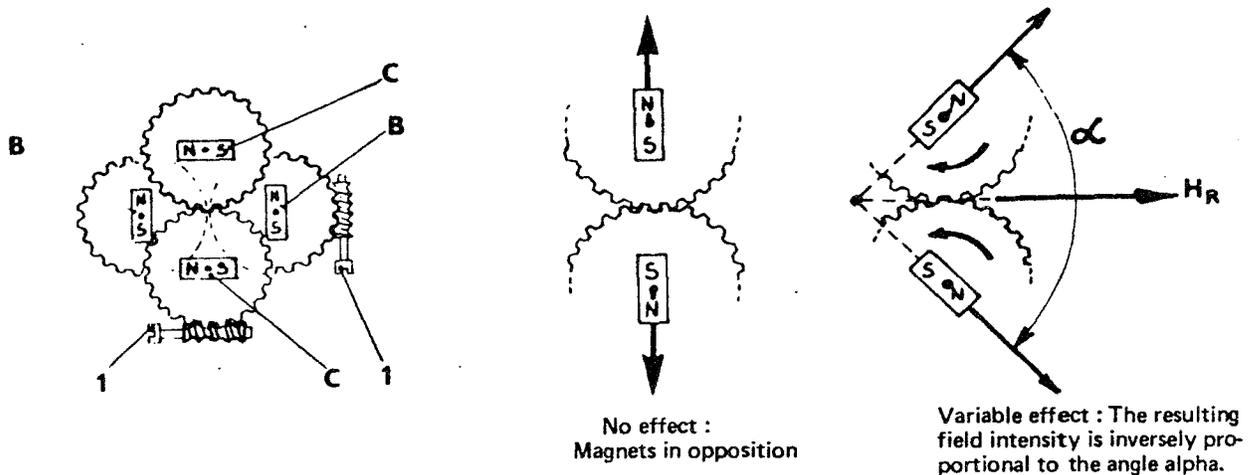

Figure 5
(1) SEMI-CIRCULAR COMPENSATION (Figure 5)